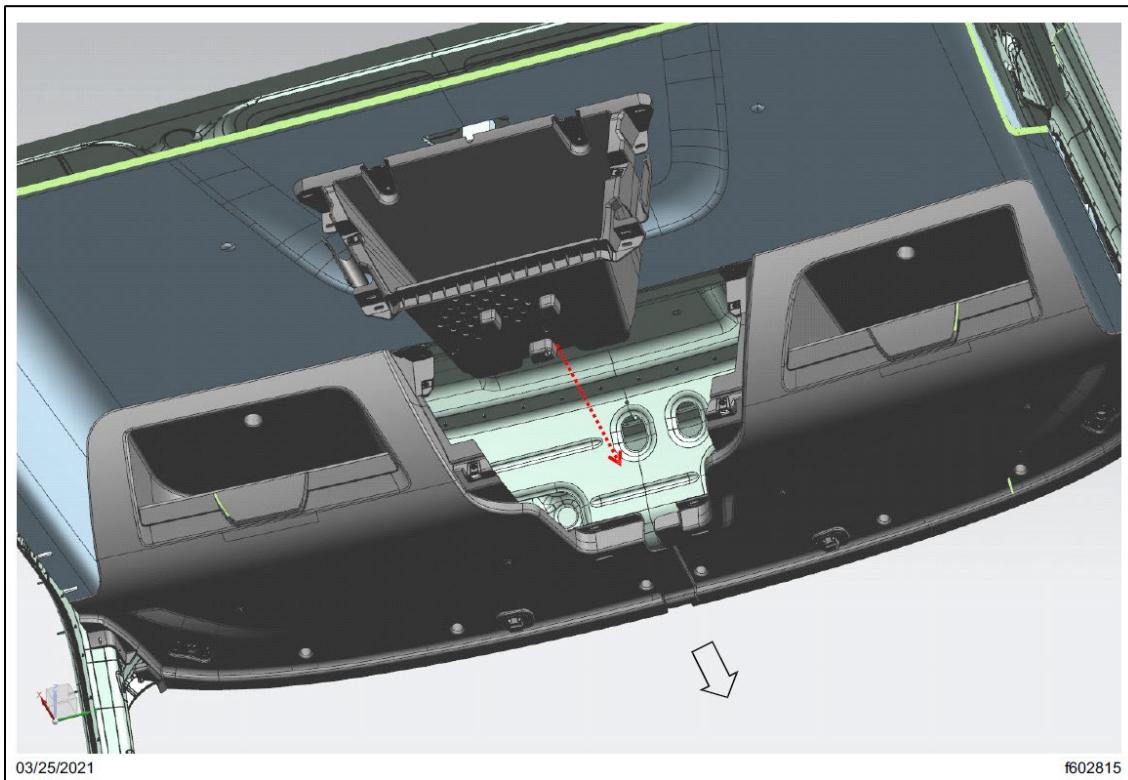

Fig. 26, Snap the Center Storage Bin into Position
7.1. Snap the center storage bin into position between the left-hand (LH) side and RH side overhead storage assemblies. See Fig. 26.